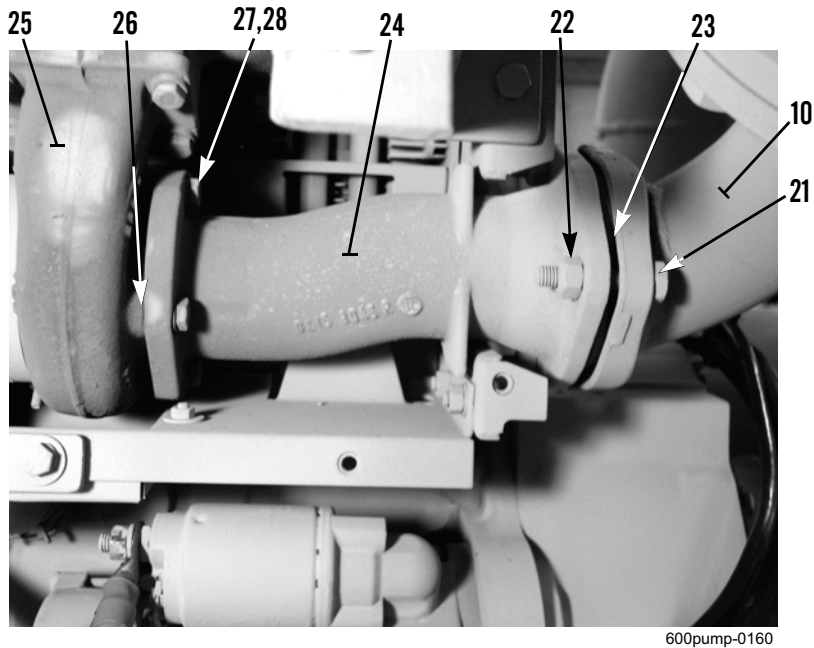

Figure 7. Exhaust Pipe, Turbocharger, and Extension Pipe.
2. Remove four bolts (Figure 7, Item 27), lockwashers (Figure 7, Item 28), and gasket (Figure 7, Item 26) from exhaust pipe (Figure 7, Item 24) and turbocharger (Figure 7, Item 25). Discard lockwashers and gasket.
3. Remove three bolts (Figure 7, Item 21), nuts (Figure 7, Item 22), gasket (Figure 7, Item 23), and exhaust pipe (Figure 7, Item 24) from extension pipe (Figure 7, Item 10). Discard gasket.
1. Install new gasket (Figure 7, Item 23), exhaust pipe (Figure 7, Item 24), three bolts (Figure 7, Item 21), and nuts (Figure 7, Item 22) on extension pipe (Figure 7, Item 10).
2. Install new gasket (Figure 7, Item 26), four new lockwashers (Figure 7, Item 28), and bolts (Figure 7, Item 27) on exhaust pipe (Figure 7, Item 24) and turbocharger (Figure 7, Item 25).